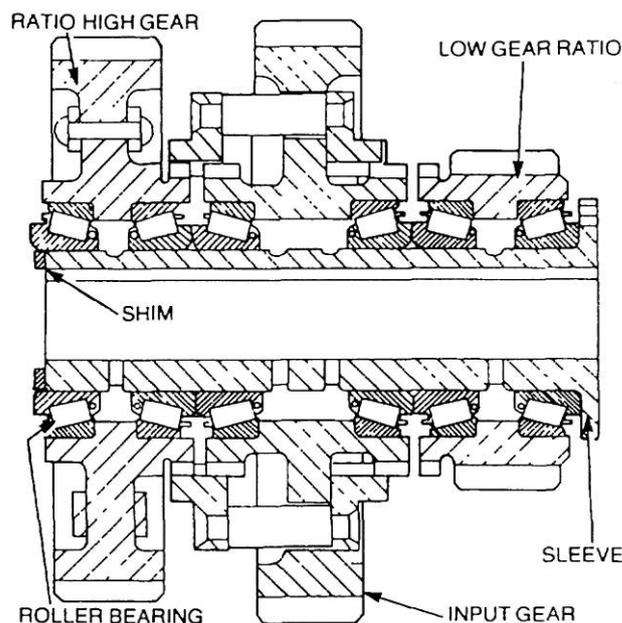

Figure 68 Intermediate Gears - Sectional View
- i. Remove the shim installed on the end of the hollow sleeve and remove each gear complete with the bearing cups and cones. Using a suitable press, replace the bearings if required (Figure 68).